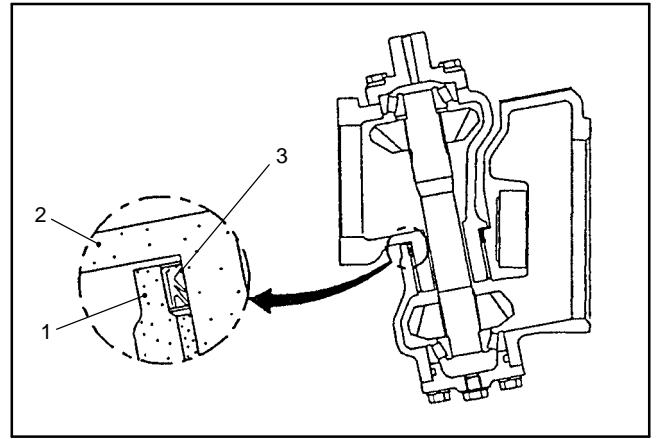

Figure 20
1. Coat new shaft seal with grease and install in axle case as shown (Fig. 20).